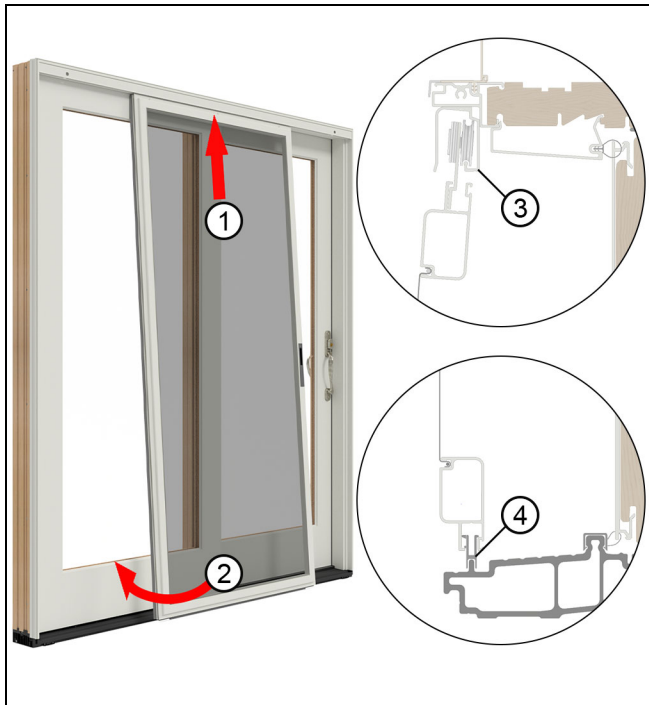

Figure 1
1. From the exterior, lift the screen and insert the roller bar assembly attached to screen into the roller track. Rotate the bottom of the screen and rest the bottom rail guide on the roller track. See Figure 1.